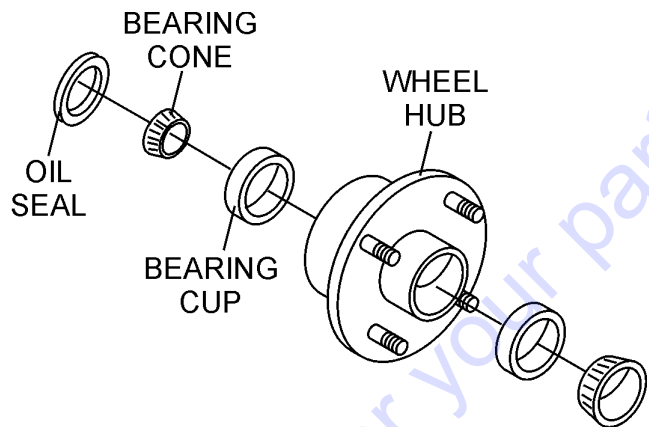

Figure 34. Wheel Hub and Bearings
1. After **every 3 months** of operation, remove the hub dust cap and inspect the wheel bearings (Figure 34). Once a year, or when required, disassemble the wheel hubs remove the old grease and repack the bearings forcing grease between rollers, cone and cage with a good grade of high speed wheel bearing grease (never use grease heavier than 265 A.S.T.M. penetration ("No. 2.")).
2. Fill the wheel hub (Figure 34) with grease to the inside diameter of the outer races and also fill the hub grease cap. Reassemble the hub and mount the wheel. Then tighten the adjusting nut, at the same time turn the wheel in both directions, until there is a slight bind to be sure all the bearing surfaces are in contact.